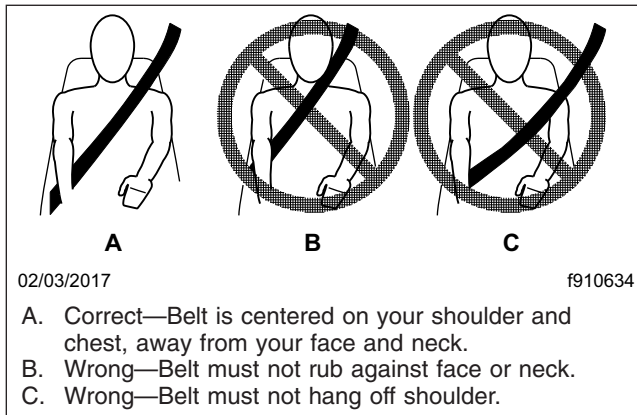

Fig. 5.9, Proper Shoulder Strap Fit
3. Position the shoulder strap diagonally across your chest with the adjustable D-loop bracket (if equipped). The shoulder strap must be centered on your shoulder and chest, away from your face and neck. See Fig. 5.9. If desired, engage the Komfort Latch as follows.
5. Position the shoulder strap diagonally across your chest with the adjustable D-loop bracket (if equipped). The shoulder strap must be centered on your shoulder and chest, away from your face and neck. See Fig. 5.9.